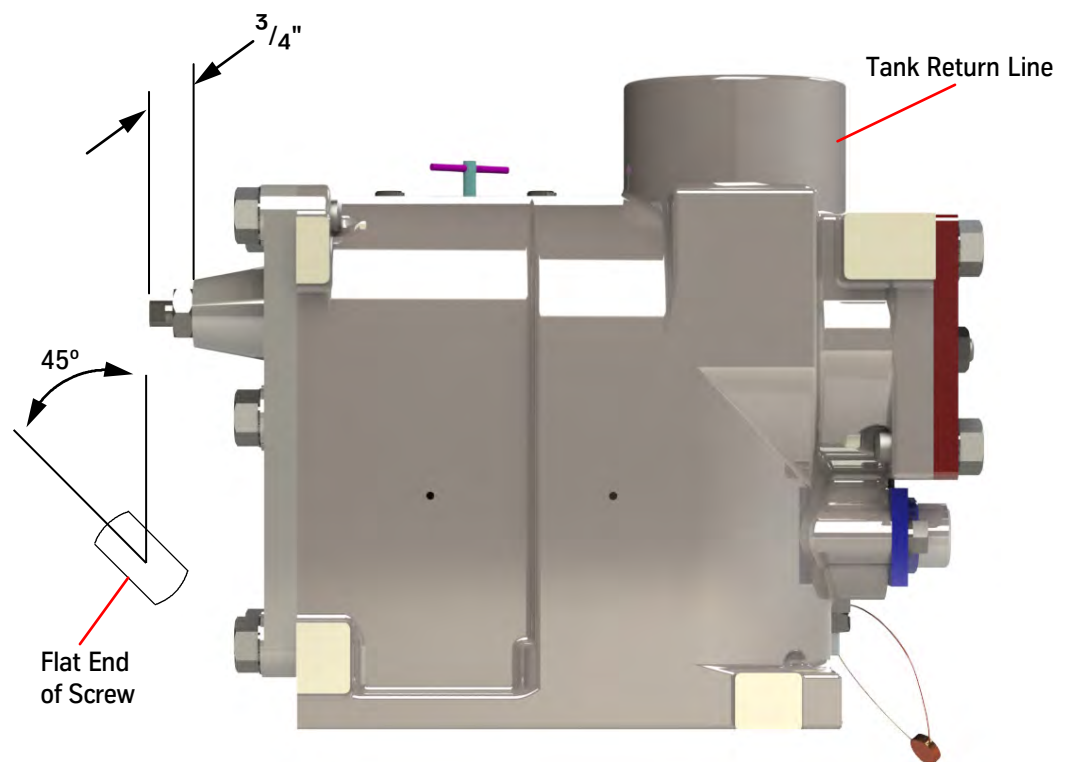

Figure 3 - Lowering and Leveling Speed Setting
2. Adjust the lowering and leveling screw so that  $\frac{3}{4}$ " extends beyond the valve body. See Figure 3.